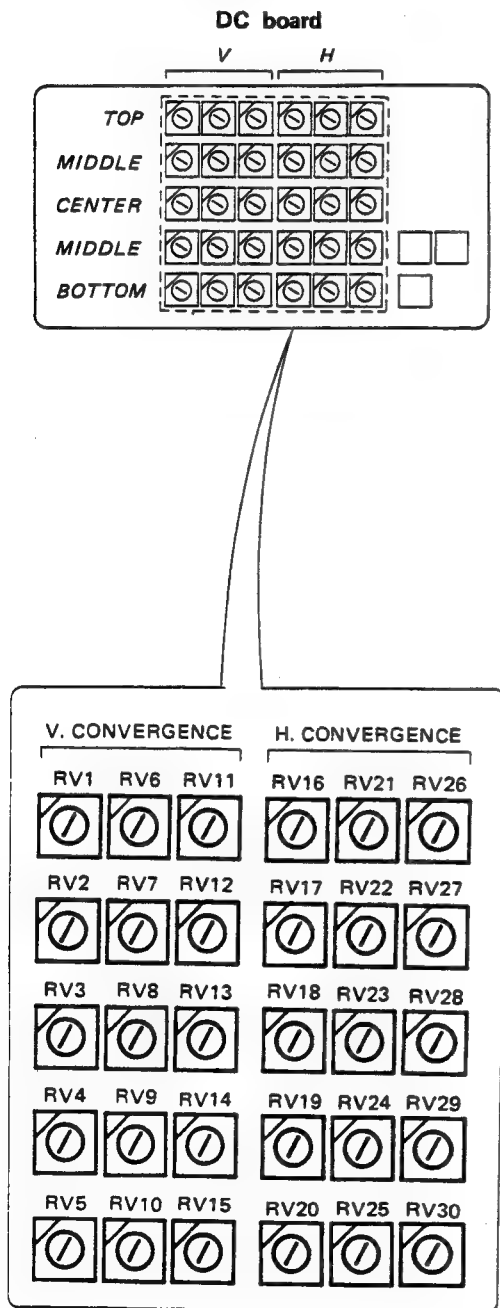

Fig. 1-10.
1. Adjust CONVERGENCE controls (RV1 ~ RV30) on the DC board as shown in Fig. 1-10.